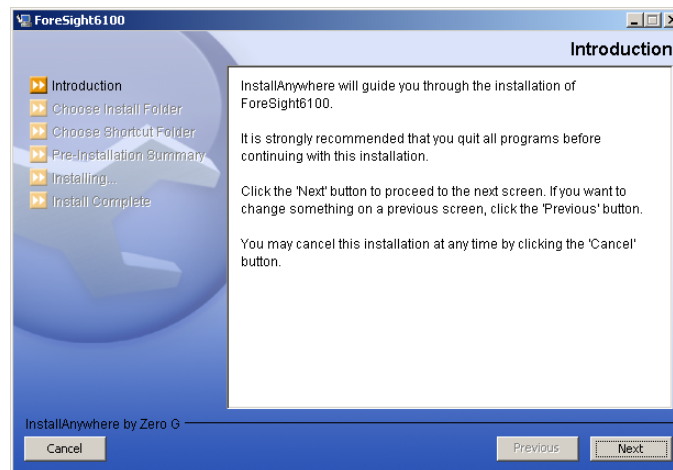

Figure 3. Introduction window
2. The ForeSight 6100 start menu automatically appears (see figure 3).